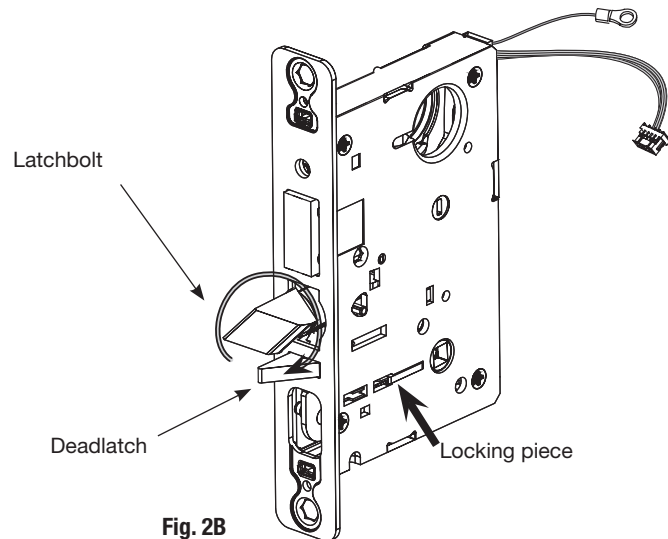

Fig. 2B
4. Rotate the latchbolt 180° (Fig. 2B).